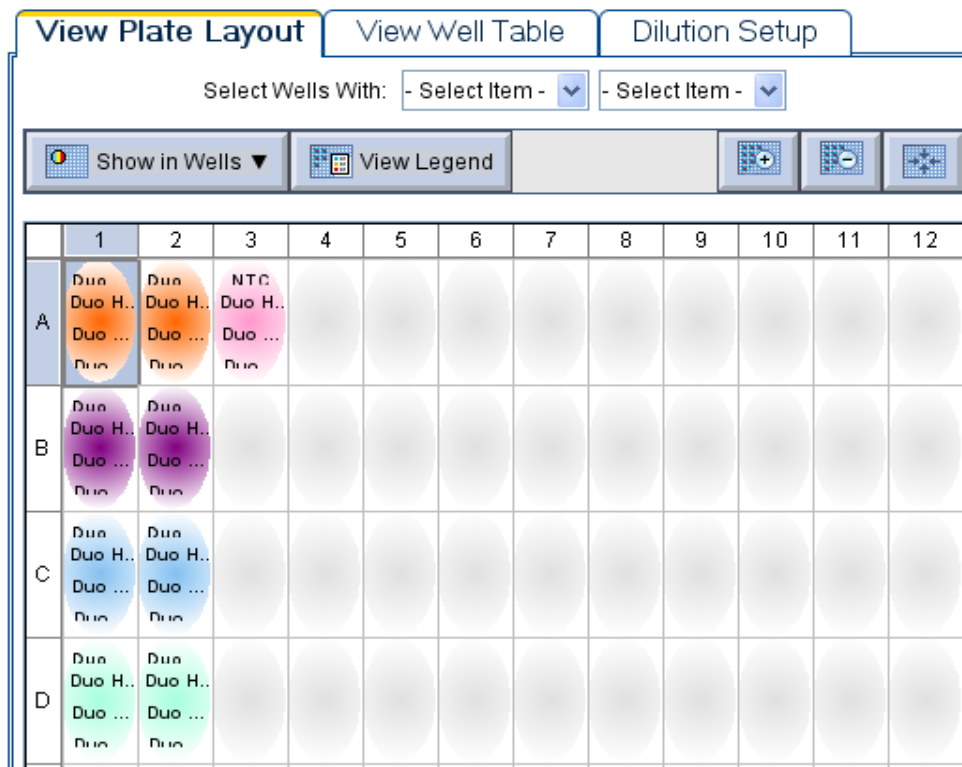

Figure 23 View Plate Layout tab
- To use the plate layout, select the **View Plate Layout** tab (Figure 23).